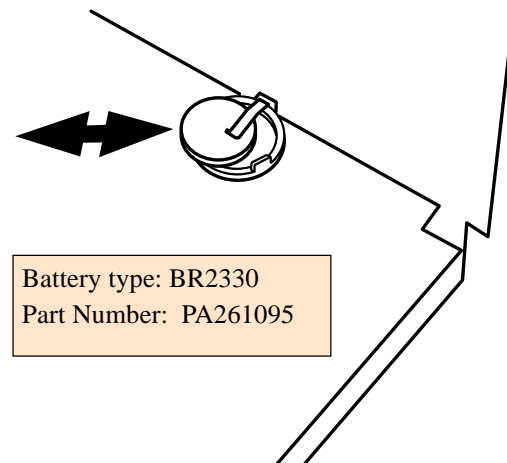

Figure 7.3.2d Replace battery
5. Push the battery out of its holder as shown in figure 7.3.2d.